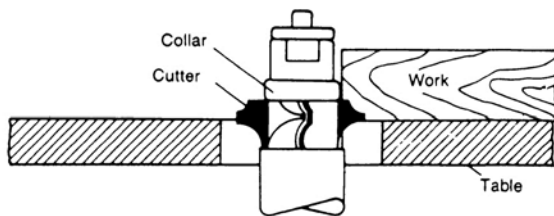

Figure 15
2. Using the collar above the cutter, Figure 15, offers the advantage of the cut not being affected by slight variations in the stock's thickness. However, the cut is not visible during the operation. Another advantage is accidental lifting of the work piece will not gouge the work piece. Simply correct the mistake by repeating the operation.